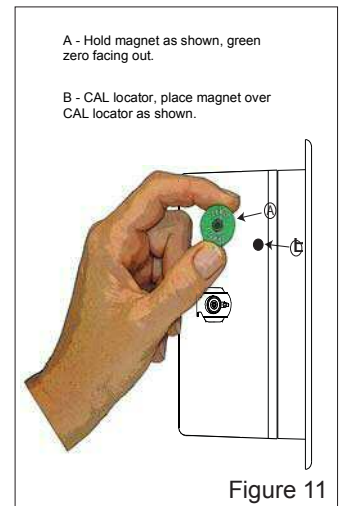

Figure 11
1 With the compressor sample line attached, place the GREEN ZERO CAL side of the calibration magnet facing out over the calibration indicator location until the instrument beeps once then move the magnet away, figure 11. The STATUS LED will be flashing GREEN-RED-GREEN, indicating the instrument is in the ZERO calibration mode. If the ZERO calibration is successful, the instrument will beep once and return to flashing green every 6 seconds. If the zero calibration fails, the instrument will beep rapidly 8 times, the LED will flash RED-GREEN, and the horn will then beep every 6 seconds. If this occurs, follow the procedure for ZERO calibration with ZERO AIR calibration gas.
- 4 Place the GREEN ZERO CAL side of the calibration magnet facing out over the calibration indicator location until the instrument beeps once, then move the magnet away, figure 11. The STATUS LED will be flashing GREEN-RED-GREEN, indicating the instrument is in the ZERO calibration mode. If the ZERO calibration is successful, the instrument will beep once and return to flashing green every 6 seconds. If you are going to do a 10PPM gas calibration, follow the procedure outlined in the next section.